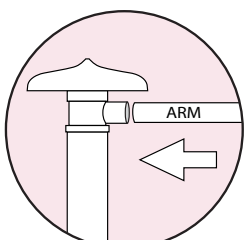
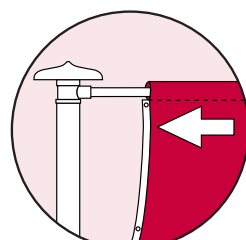

Fig 4a,
Fig 4b,
- 5, Push rotating arm into joint, ensure button clips into place (see fig 4a), slide top sleeve on flag over the arm. (see fig 4b)